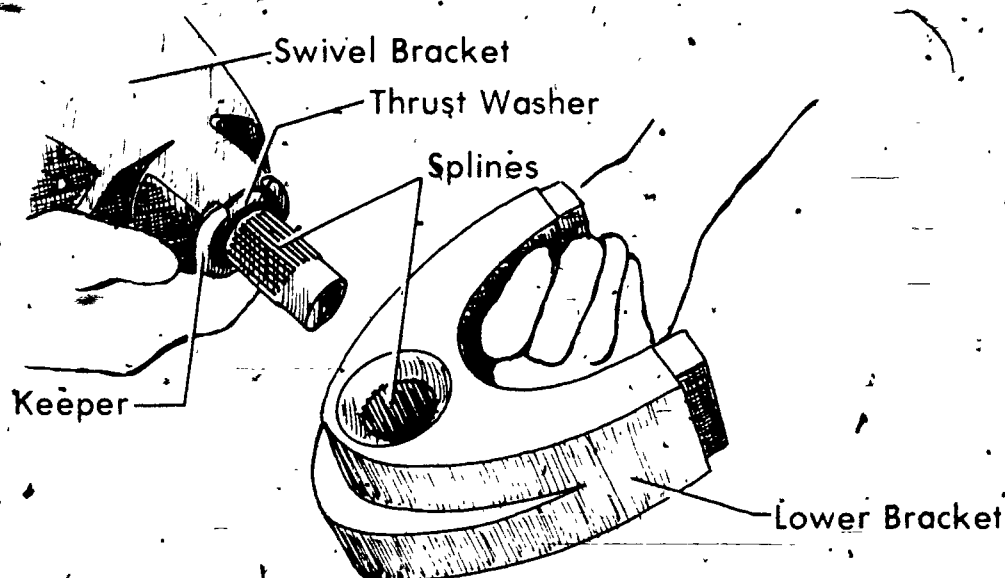

FIGURE 3
- b. Press the "in" button on the switch panel for a few seconds, release, and wait for approximately one minute (Figure 3)
- C. Remove pivot shaft, split keepers, and thrust washer (Figure 3)